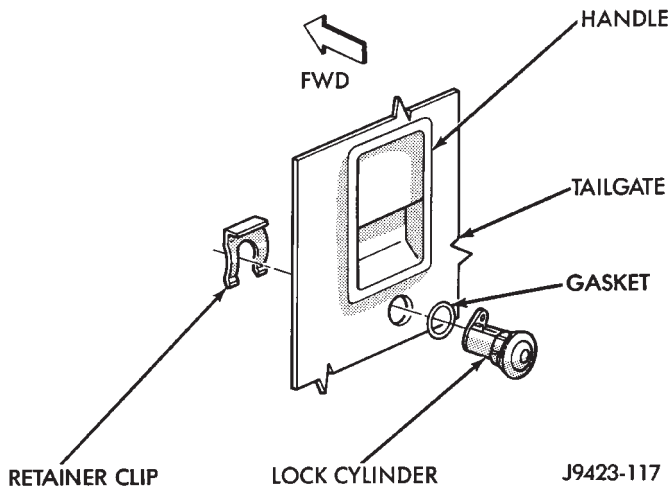

Fig. 85 Tailgate Lock Cylinder Removal/Installation
- (3) Remove the lock cylinder retainer clip (Fig. 85).
(4) Disengage the lock cylinder lever (Fig. 85) from
(5) Remove the lock cylinder from the tailgate opening.
(6) Remove the E-clip and separate the lever from the lock cylinder (Fig. 85).
(1) Inspect the retainer clip and the gasket. As applicable, replace if distorted or damaged.
(2) Attach the lever to the lock cylinder with the E-clip and position the lock cylinder in the tailgate opening (Fig. 85).
(3) Connect the latch-to-lock cylinder rod to the lever.
(4) Install the lock cylinder retainer clip (Fig. 85).